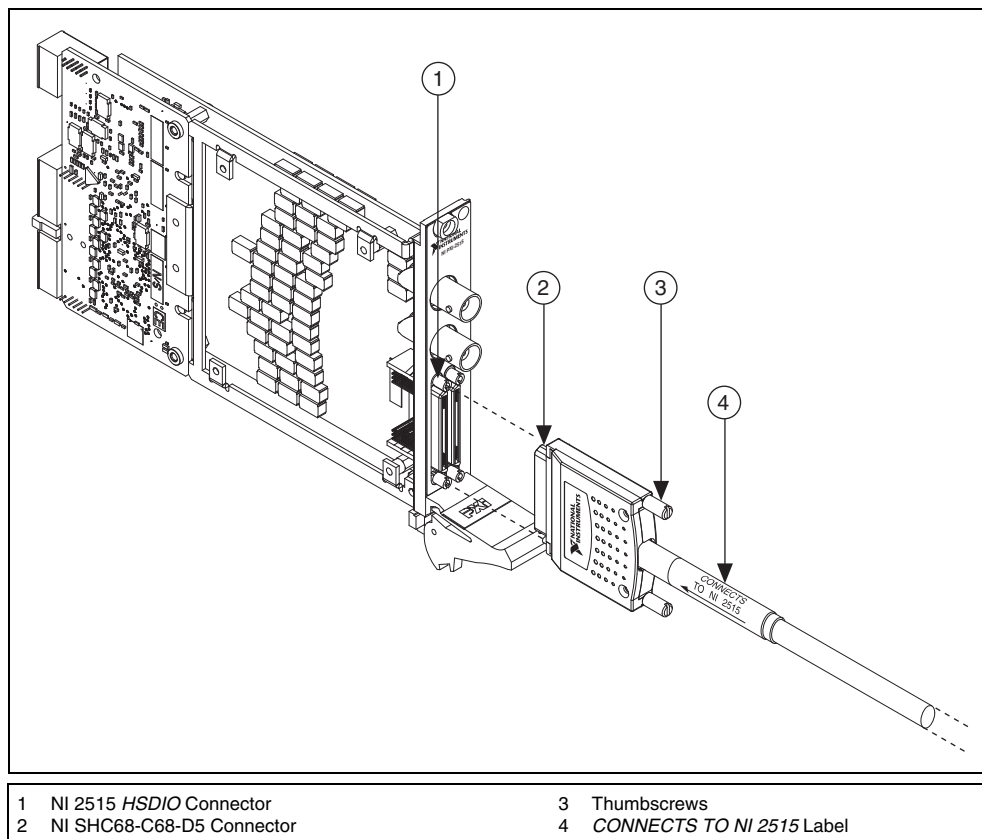
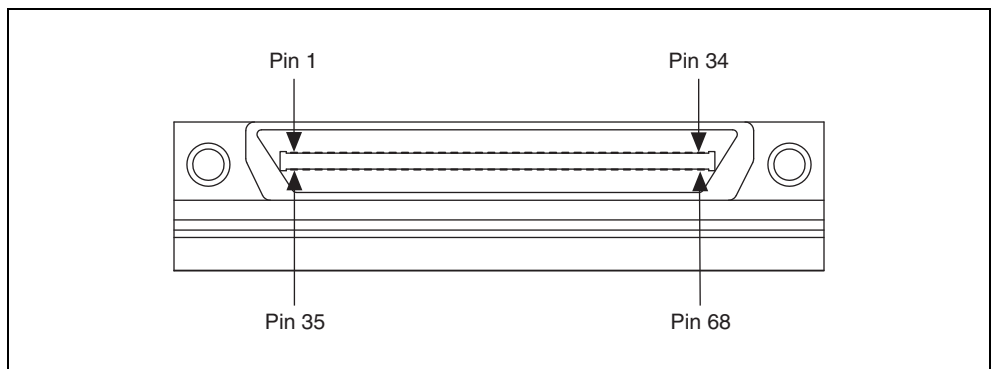

Figure 1. Connecting the Cable to the NI 2515
Figure 3. NI SHC68-C68-D5 Mating Connector
Complete the following steps to connect the cable to the switch module and your application. Refer to Figures 1 and 2 for illustrations of the cable, and refer to Figure 3 for an illustration of the connector.
1. Connect the cable connector labeled *CONNECTS TO NI 2515* to the *HSDIO* connector on the NI 2515 module as shown in Figure 1.
The cable connects two 68-position male VHDCI connectors. The connector labeled *CONNECTS TO NI 2515* provides connection to the switch module. The second connector provides connection to a supported NI high-speed DIO device. Figure 3 shows the pinout for the connectors.